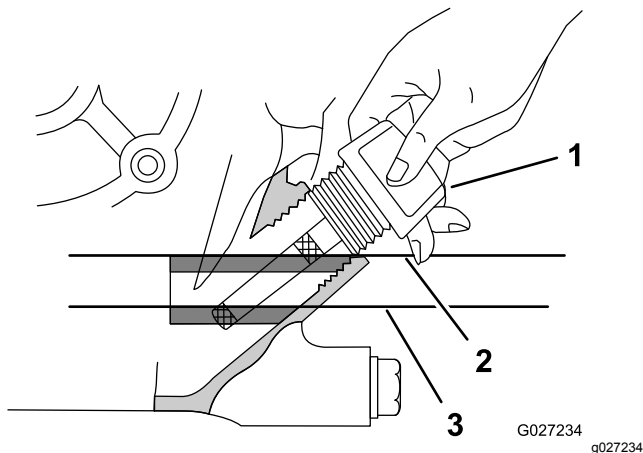

Figure 13
4. Remove the dipstick from the engine and wipe the dipstick with a clean rag (Figure 13).
5. Insert the dipstick from the engine as shown in Figure 13.
6. Remove the dipstick from the filler neck and look at the oil level in the dipstick (Figure 13).
Note: The engine oil level must cover between the hatch marked areas on the dipstick (Figure 13).
8. Hand tighten the dipstick into the filler neck (Figure 13).